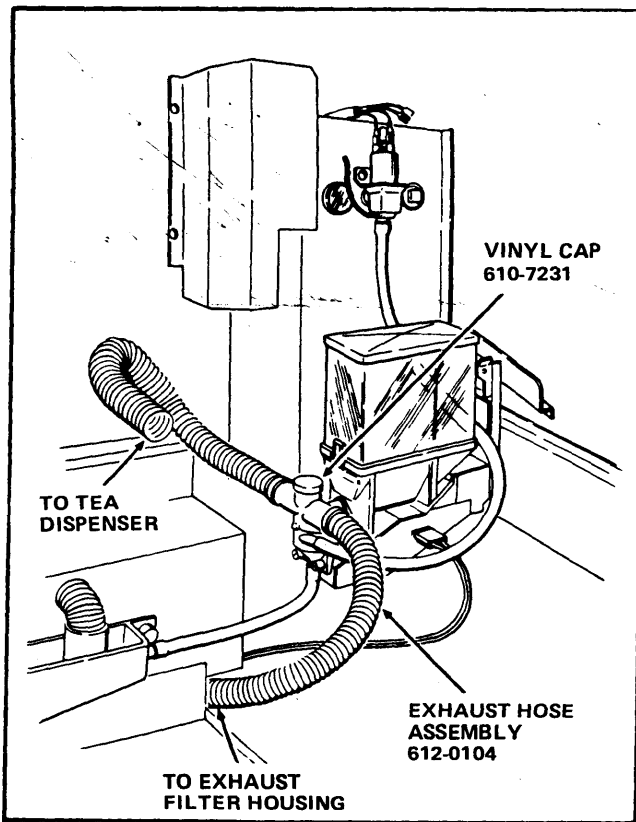

FIGURE 5. 610 WITH TEA
16. a. On 610 Merchandisers equipped with tea, remove the Tea Exhaust Hose from the Exhaust Filter Housing and connect it to the Mixing Bowl Vent. See Figure 5.
- c. Connect the Exhaust Hose Assembly, Part Number 612-0104, included in the Kit, to the Mixing Bowl Vent and connect the other end to the Exhaust Filter Housing. See Figure 5 or 6.
- d. Fit the Vinyl Cap, Part Number 610-7231, included in the Kit, over the opening in the Mixing Bowl Vent. See Figure 5 or 6.